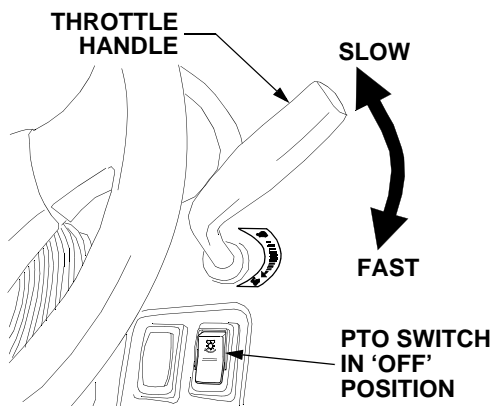

Figure 14
- Move the throttle handle to the full (FAST) throttle position. Refer to Figure 14.